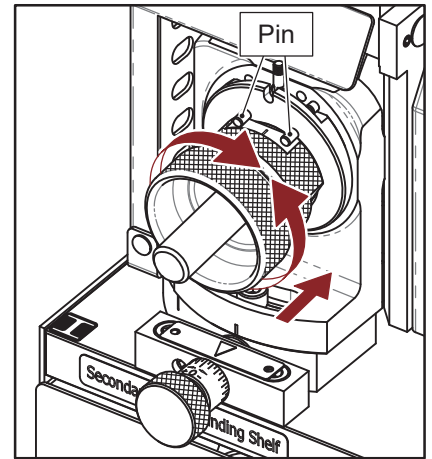

Fig. 13-1
1. 3 Flute Secondary Relief Grinding (I) (Fig. 13-1)